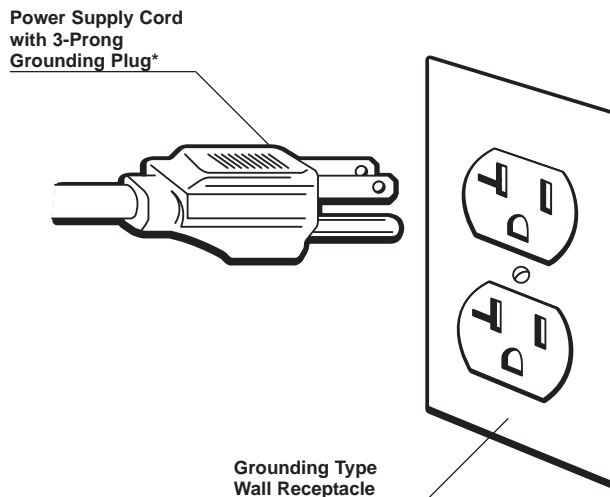

Figure 1
**Grounding Method:** This product is factory equipped with a power supply cord that has a three-pronged grounded plug. It must be plugged into a mating grounding type receptacle in accordance with the National Electrical Code and applicable local codes and ordinances (see figure 1). If the circuit does not have a grounding type receptacle, it is the responsibility and obligation of the customer to exchange the existing receptacle in accordance with the National Electrical Code and applicable local codes and ordinances. The third ground prong should not, under any circumstances, be cut or removed. All U.L. listed refrigerated products are equipped with this type of plug.